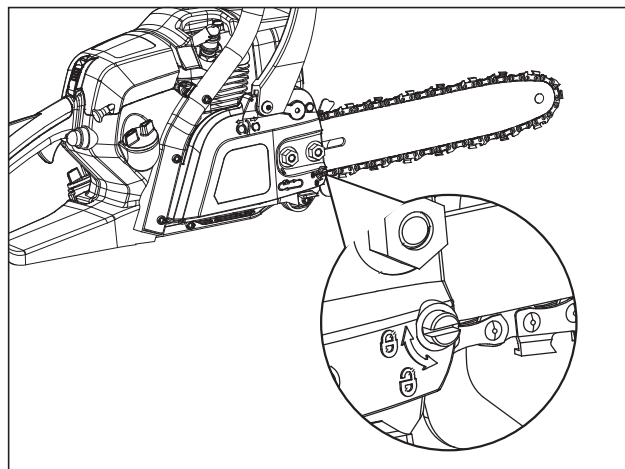

Fig. 2
2. If adjustments are needed, loosen the bar mounting nuts at first then loosen the saw chain tension screw by turning it counterclockwise with the spark plug wrench(Fig. 2).